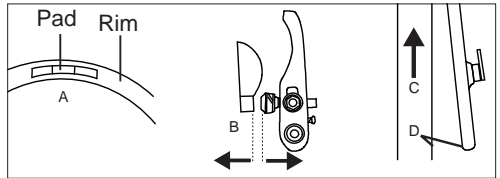

Fig. 4: Pad alignment. A: Brake pad lined up with rim surface. B: Brake pad and rim should be parallel. C: Rim direction. D: Toe-in of .5-1.0mm.
- **Hand-rim brake:** a cable connects a hand lever to the brake. The lever causes the brake-pads to apply pressure to the rim. Pull the brake-lever to make sure the brake moves freely and stops the bicycle. If the brake-lever can be pulled to the handlebar, the brake is too loose. When the brakes are not applied, the brake-pads should be 1 to 2mm from the rim. If the brake-pads are too near to the rim, the brake is too tight. The brake pads should be in line with the rim surface (Fig. 4)